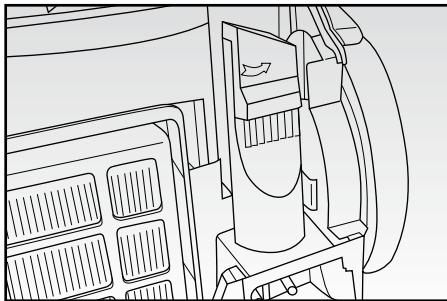

Fig. 5
Store the appliance, putting the crevice nozzle with the brush (H) into the apposite rear housing (Fig. 5).